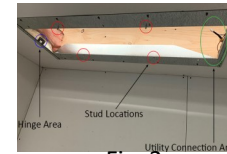

Fig. 3
- B. Install the mounting flange onto the ceiling and secure it to the joists using 2 1/2" flat head wood construction screws (not provided). Ensure the hinge area of the mounting flange is opposite the utility connection side of the unit (Fig. 3).